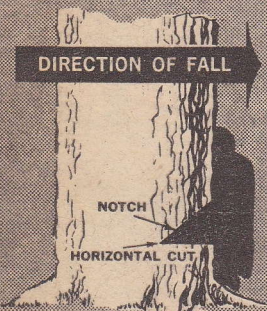

FIGURE 11
1. After clearing away all undergrowth, select a line on which you want the tree to fall . . . giving consideration to the natural lean, wind, position of heavy branches. Then cut notch on the side the tree is to fall. Notch should be $\frac{1}{4}$ to $\frac{1}{2}$ through tree (see Figure 11).